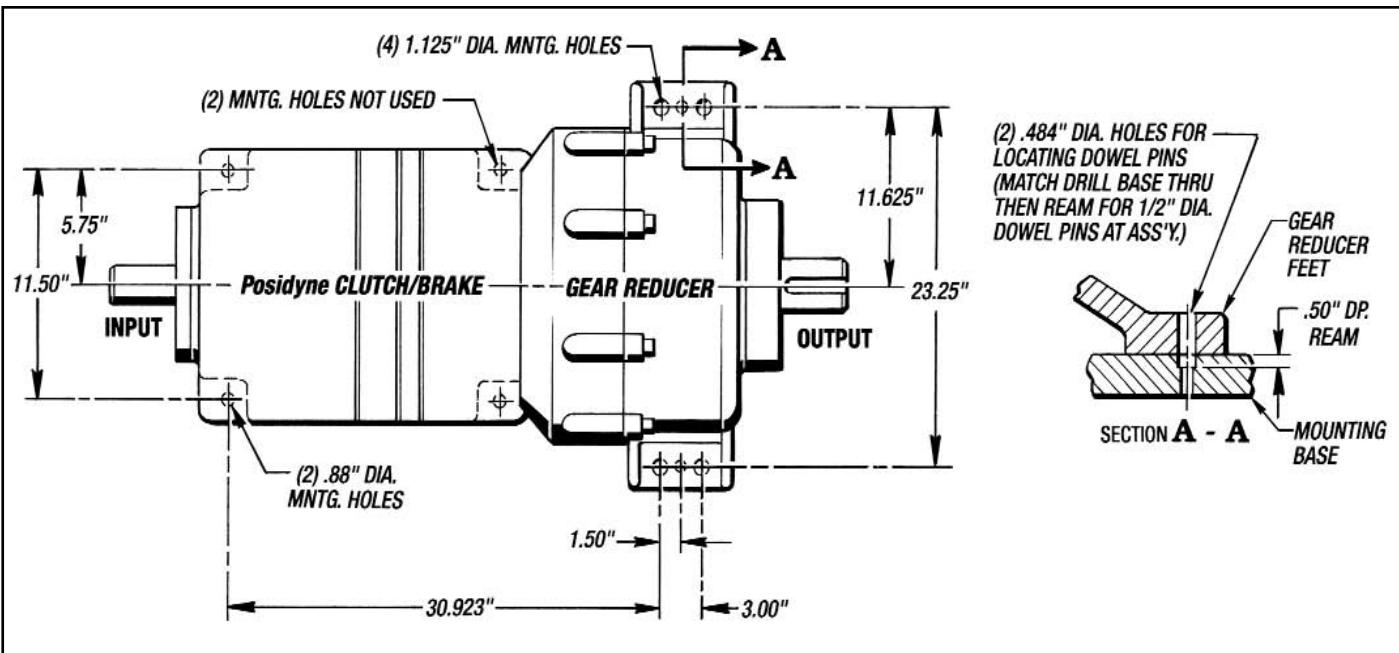

Figure 2 - Size 20P Posidyne Mounting Hole Layout and Mounting Dowel Pins Installation
The primary attachment to the machine frame or base must be done off the (4) mounting holes on the Planetary Gear Reducer. The (2) mounting feet on the *Posidyne* Output Housing are not used. A nominal 1/2" Spacer plus shims has to be used under the *Posidyne* Input Housing feet to take up the gap for vertical alignment. (See Figure 2 for Mounting Hole Layout.) After final installation and alignment to driving and driven machinery is completed, (2) removable dowel pins must be installed under the Planetary Gear Reducer feet. (See Section E on next page for procedure.)
1. Drill (2) .484" Dia. holes through the machine base, using the (2) .484" Dia. holes in the feet of the Gear Reducer Main Housing (#800) as pilot holes as shown in Figure 2.